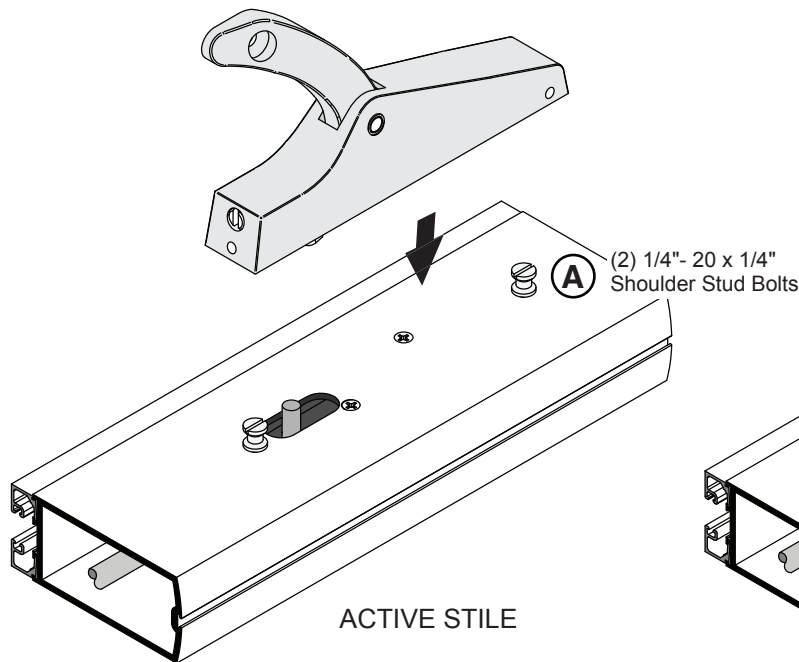

FIG. 12
1. Insert the (2) **(A)** 1/4"- 20 x 1/4" Shoulder Bolts on both Active and Inactive Stiles (Fig. 12).